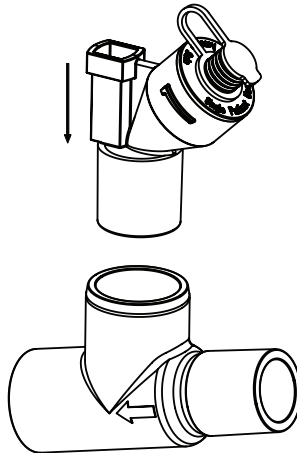
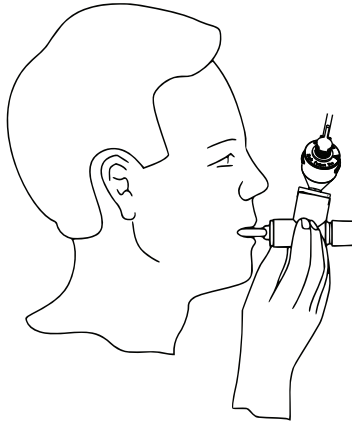

Figure 3: Connecting nebulizer unit to T-adapter
Figure 15: Connecting to a mouthpiece
1. Connect the nebulizer unit to the T-piece by pushing the nebulizer unit firmly onto the T-piece (Figure 3).
When using a mouthpiece, connect the nebulizer unit to the T-piece as shown in Figure 3 in this manual, and then connect the T-piece to the mouthpiece by pushing the parts firmly together (Figure 15).
Caution: To ensure proper nebulization, maintain the nebulizer in a vertical orientation (Figure 15).